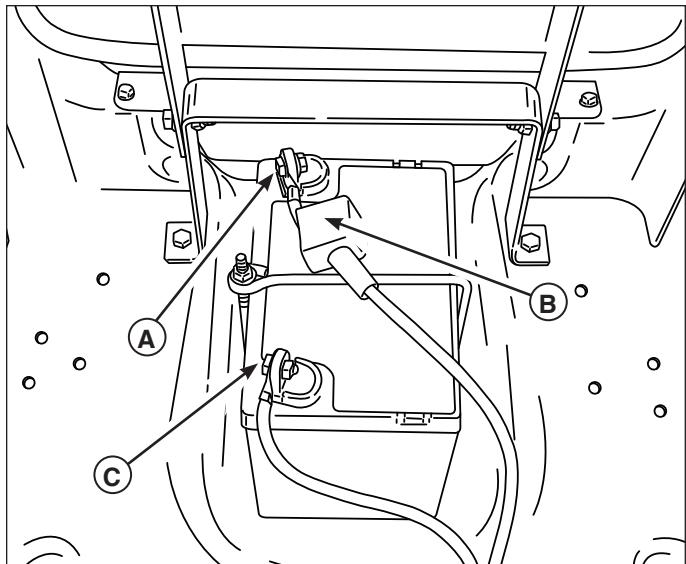

Figure 21. Battery Compartment
1. Disconnect the cables from the battery, negative cable first (**C**, Figure 21).